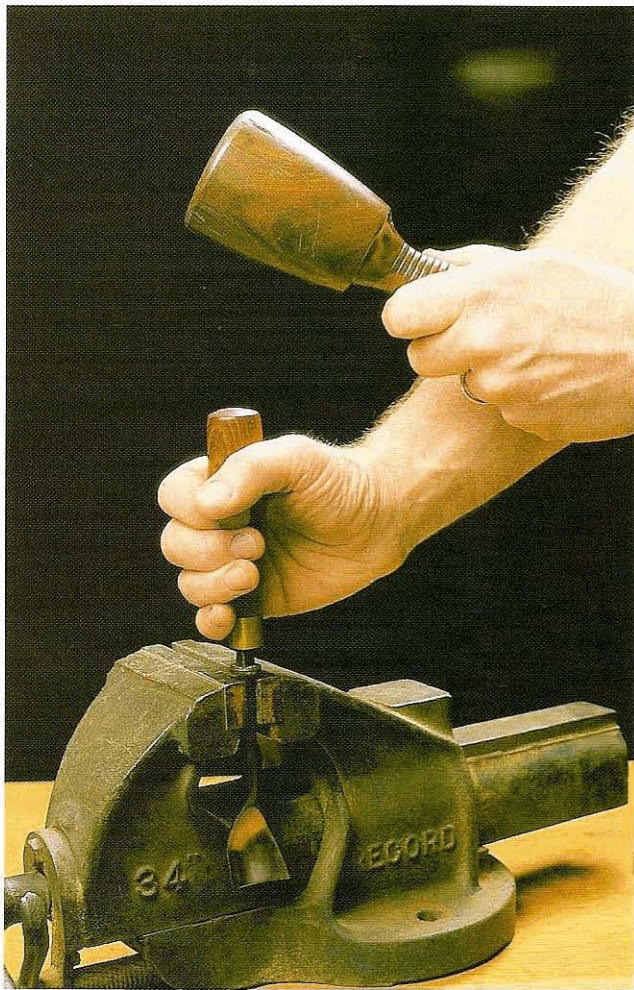

Fig 3.33 The 'tap and twist' method of fitting a handle
- 1 Tap the handle, with its pilot hole, on to the tang a little way then twist it around both ways – the tang is being used to ream out the hole (Fig 3.33).